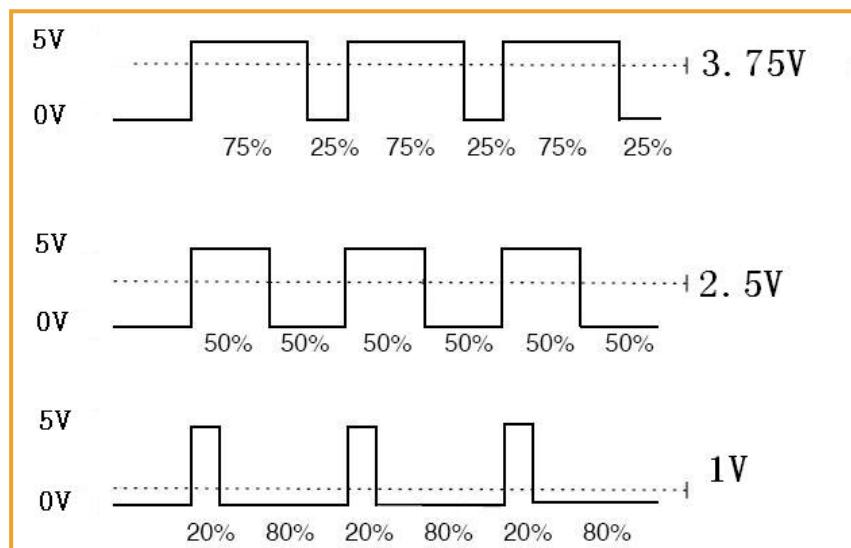

Figure 6-2 Diagram of pulse and voltage
In the Arduino, the analog voltage cannot be output, and only the digital voltage value of 0 or 5V can be output. We use the high-resolution counter to modulate the square wave's duty cycle to the level of a specific analog signal to encode. The PWM signal is still digital because at any given time, the full-scale DC supply is either 5V (ON) or 0V (OFF). The voltage or current source is applied to the analog load in a repeating pulse sequence of ON or OFF. When the DC power is applied to the load, the power is disconnected when the power is turned off. Any analog value can be encoded using PWM as long as the bandwidth is sufficient. The output voltage value is calculated by the on and off times. Output voltage = (on time / pulse time) * maximum voltage value, Figure 6-2 is the voltage corresponding to the pulse change.